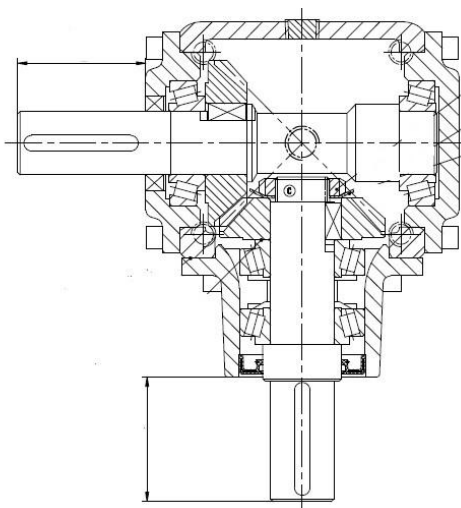

Figure 91
6. If the backlash is too small install another paper shim under the input housing, 1, Figure 91
7. If the backlash is too large install a shim between the gear on the input shaft bearing and gear, 2, Figure 91